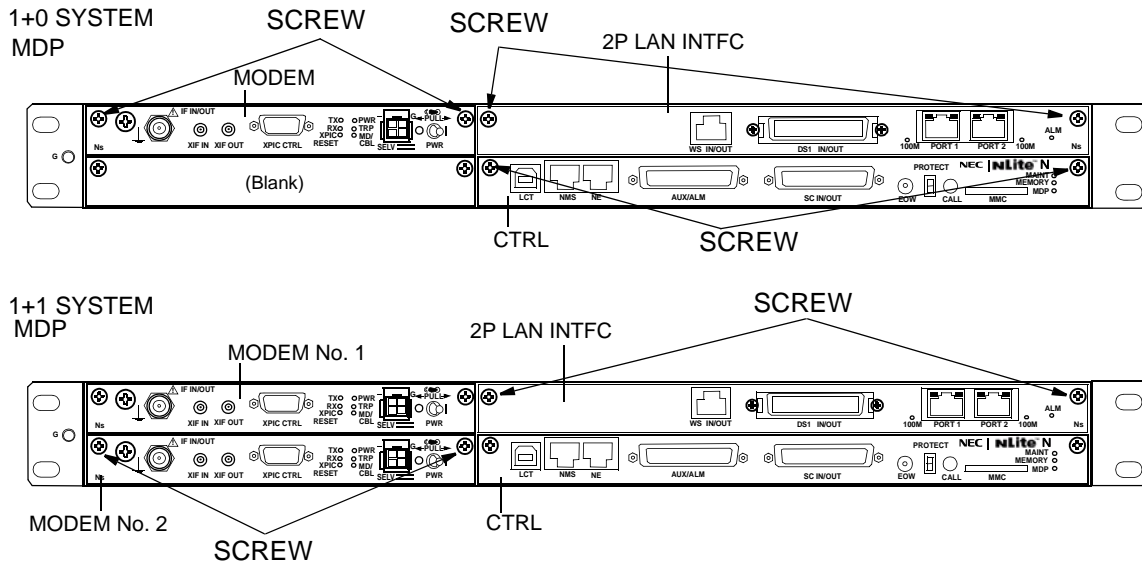

Fig. 5-12 Demounting and Remounting Module
5	Loosen two screws on the MODEM module. (See Fig. 5-12)
- 4 Loosen two screws on the module. (See Fig. 5-12)